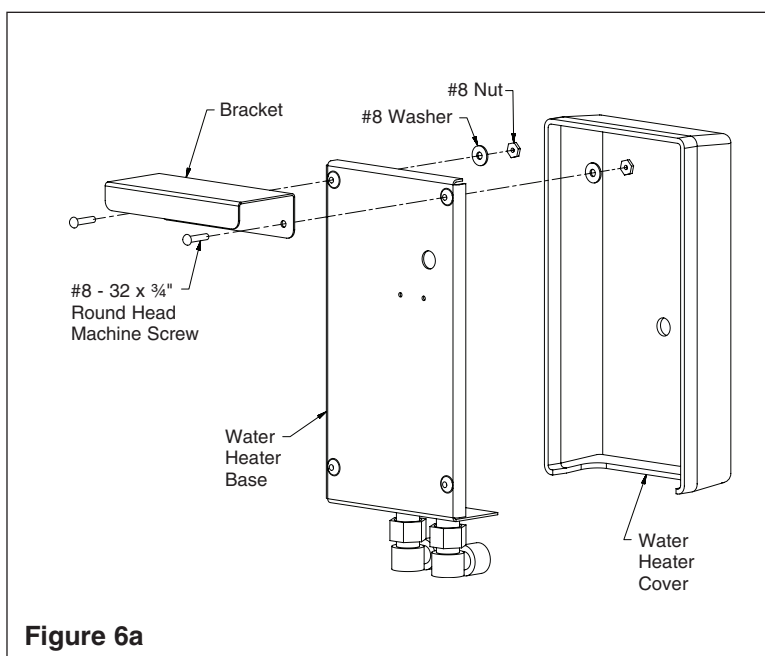

Figure 6a
1. Remove the cover from the water heater. Attach the bracket to the cover with the two screws, nuts and washers, then reattach the cover (see Figure 6a).